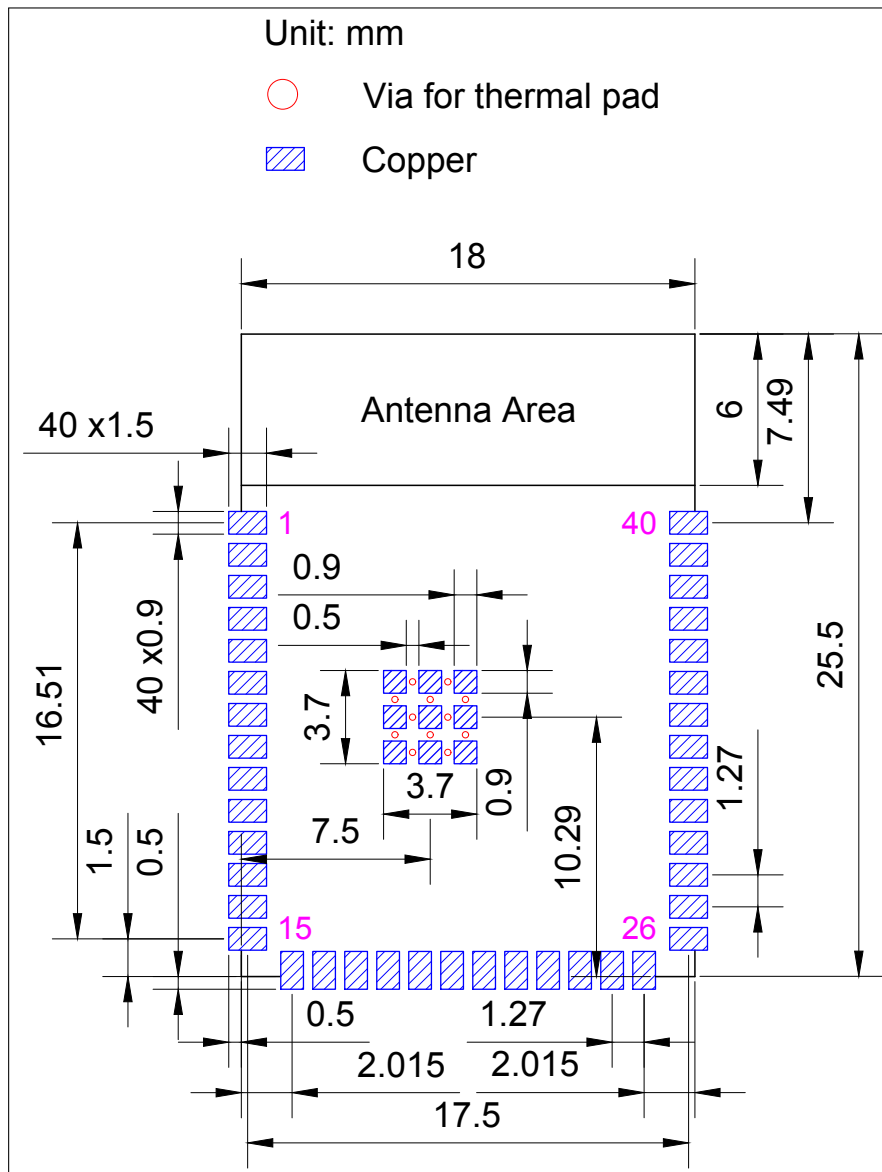
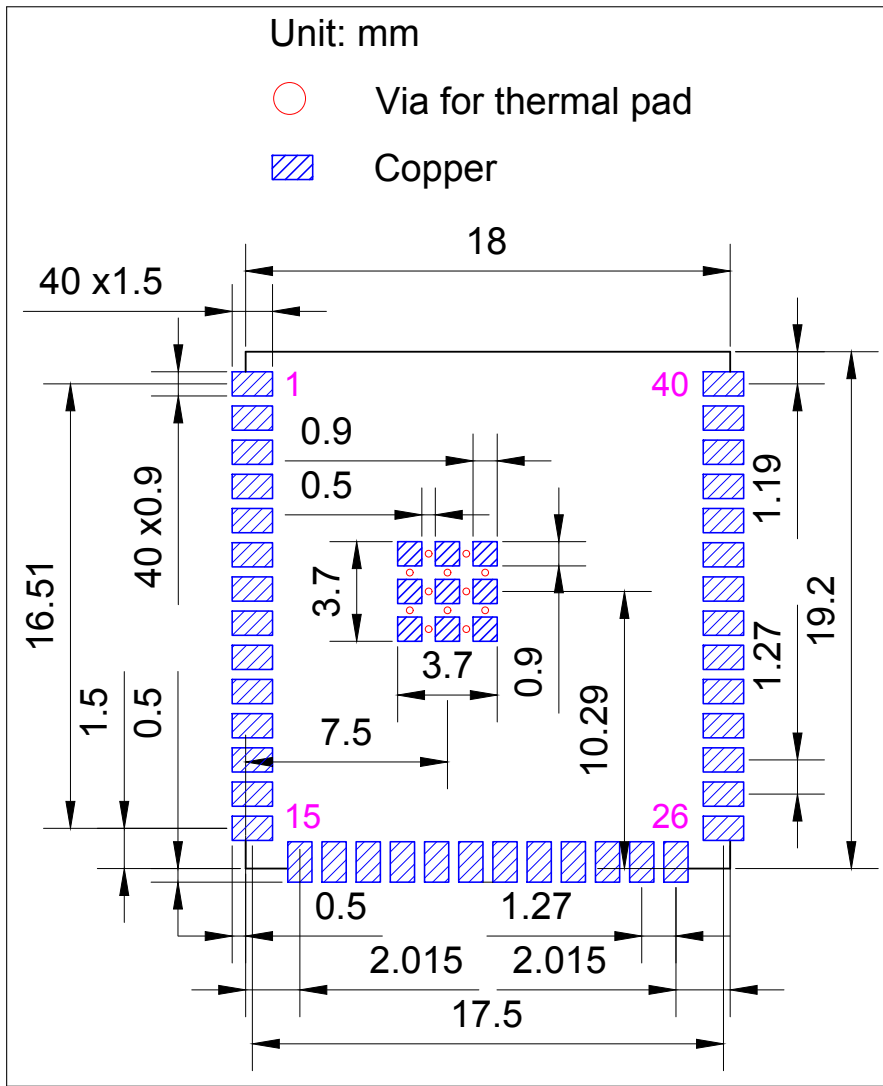

Figure 10: ESP32-S2-SOLO Recommended PCB Land Pattern
Figure 11: ESP32-S2-SOLO-U Recommended PCB Land Pattern
- Figures for recommended PCB land patterns with all the dimensions needed for PCB design. See Figure 10 ESP32-S2-SOLO Recommended PCB Land Pattern and Figure 11 ESP32-S2-SOLO-U Recommended PCB Land Pattern.
- Source files of recommended PCB land patterns to measure dimensions not covered in Figure 10. You can view the source files for ESP32-S2-SOLO and ESP32-S2-SOLO-U with Autodesk Viewer.